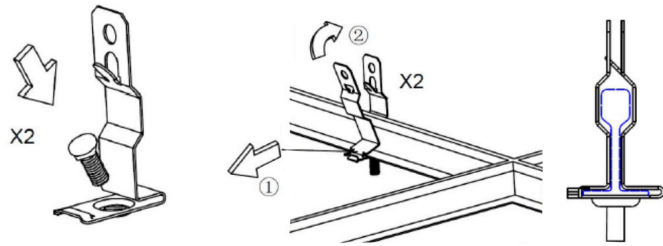

Fig. 5.2
3. Put the screws through the hole at the bottom of the bracket. (Fig. 5.2)